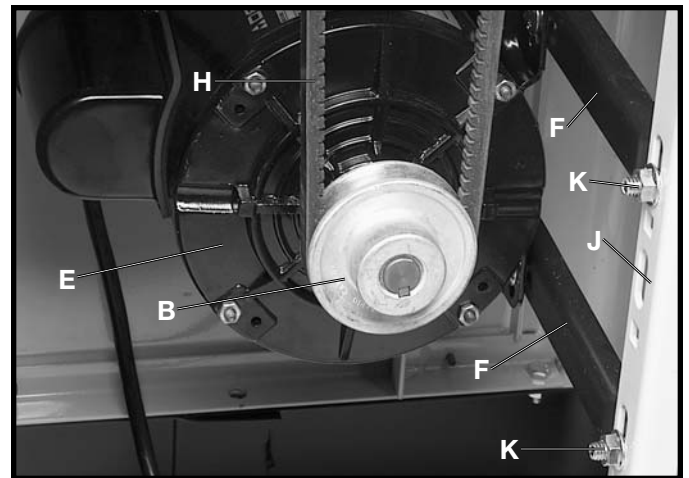

Fig. 7
Assemble the drive belt (H) Fig. 7 to the arbor pulley and motor pulley (B). Adjust for proper belt tension by raising or lowering motor (E) on motor mounting posts (J) (one is shown), by loosening four mounting nuts, two of which are shown at (K). If necessary, the motor mounting bars (F) can be repositioned on two mounting posts (J). **NOTE: MAKE CERTAIN BOTH PULLEYS ARE KEPT IN ALIGNMENT WHEN ADJUSTING BELT TENSION.** Correct belt tension is obtained when there is approximately one inch deflection in the center span of the belt using light finger pressure. **IMPORTANT: BE CERTAIN TO TIGHTEN ALL MOUNTING HARDWARE ONCE FINAL ADJUSTMENTS ARE MADE.**